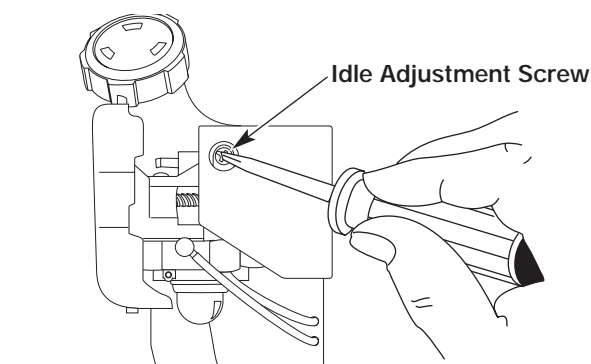

Fig. 66
The idle speed of the engine is adjustable. An idle adjustment screw is reached through a hole in the top of the engine cover (Fig. 66).
2. Release the throttle trigger and let the engine idle. If the engine stops, insert a small phillips or flat blade screwdriver into the hole in the air filter/muffler cover (Fig. 66). Turn the idle speed screw in, **clockwise**, 1/8 of a turn at a time (as needed) until the engine idles smoothly.